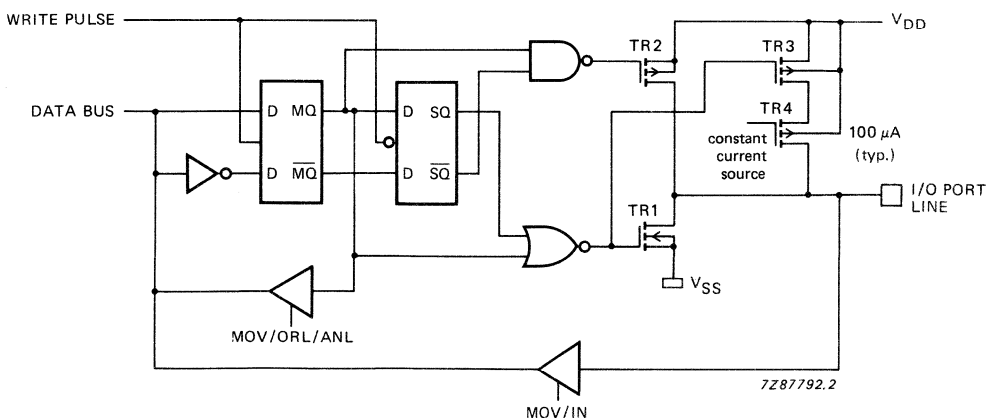

Fig. 10 Standard output with switched pull-up current source.
Fig. 10 shows the quasi-bidirectional I/O interface with push-pull output and switched pull-up current source.
- Option 1 – STANDARD PORT; quasi-bidirectional I/O with switched pull-up current source of  $100\ \mu\text{A}$  (typ.) and P-channel booster transistor TR2. TR2 is only active during 1 clock cycle (Fig. 10).